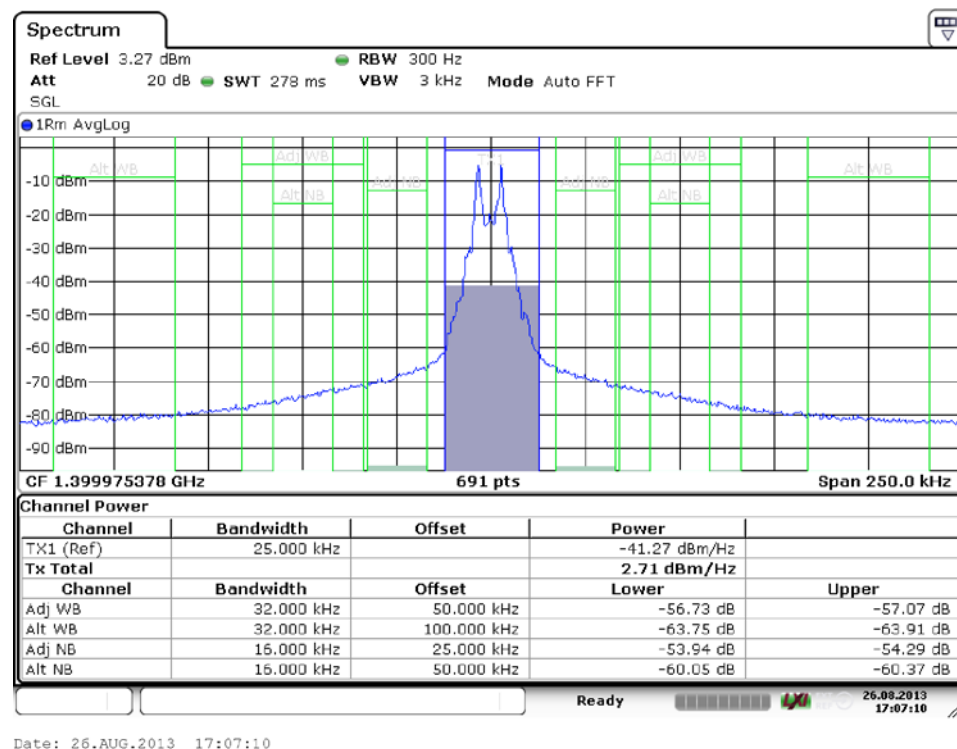

Fig 5– ACP measurements
4. Make an Adjacent Channel Power (ACP) measurement and verify that it is similar to fig 5, +/- 3dB.